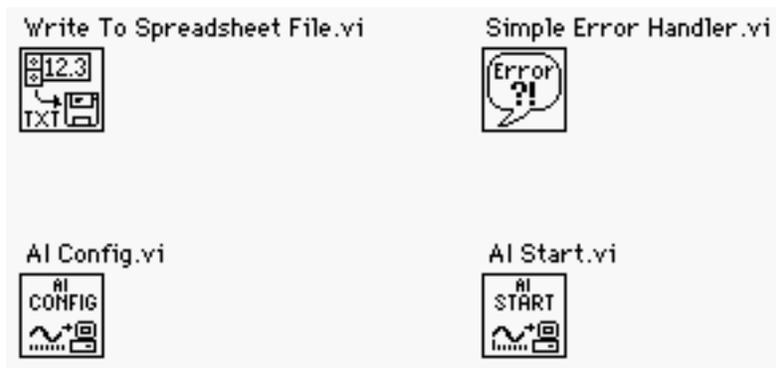

Figure P4.4
- 4.4** Create a VI **P04_04.vi** and place the VIs shown in Figure P4.4. Using the Text Editor, or **String Constant**, list the path of each VI in the diagram window. Then, create controls and indicators to each VI using the technique mentioned in section 4.1.1. After creating them, make sure to arrange the controls and the indicators nicely in the front panel.